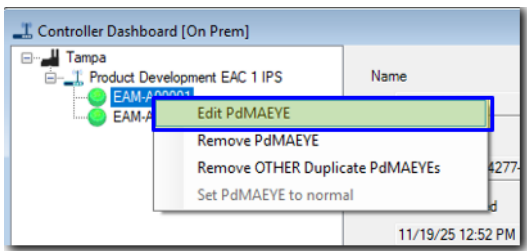

Figure 30: Edit PdMAEYE
1. Right click on the PdMAEYE and from the pop-up menu select edit PdMAEYE as shown in Figure 30.